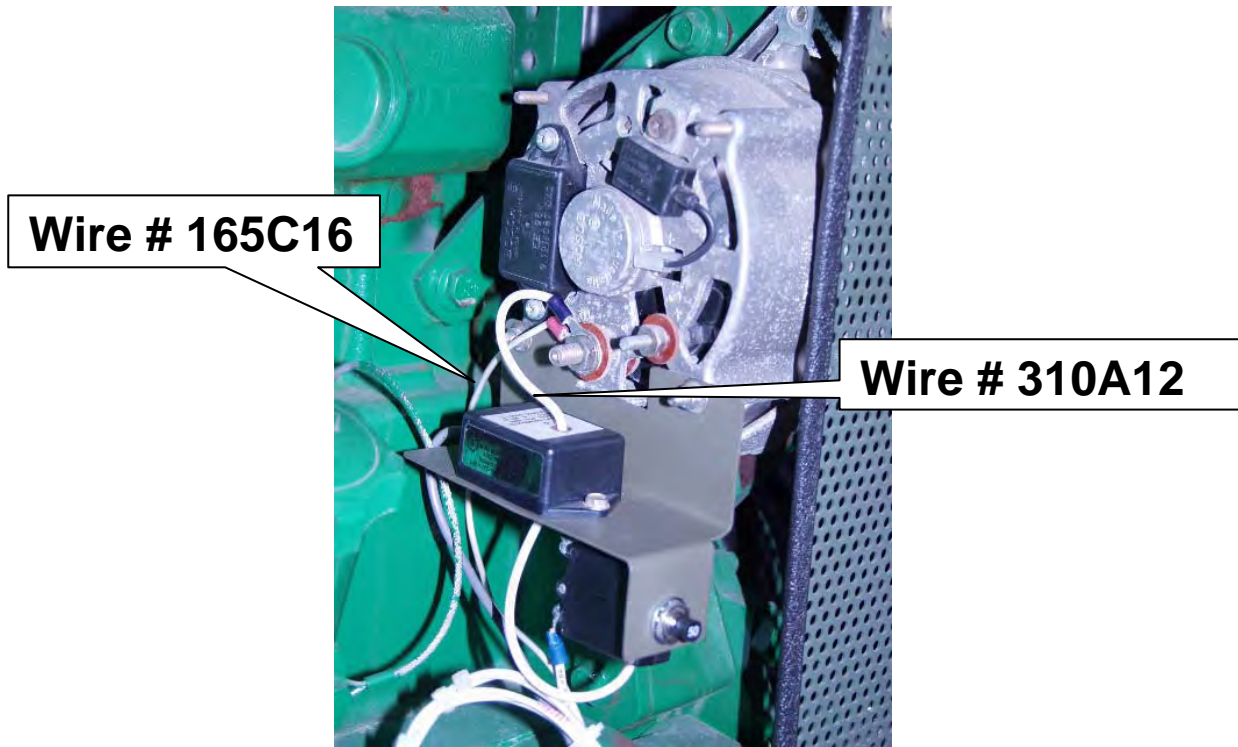

Figure 5. Final Assembly
12. Attach CB1/BCT bracket assembly to the alternator using the existing hardware as shown in figure 5.
13. Install 3/8 inch stud size, lug terminal to the positive terminal on the battery charging alternator, as shown in figure 5. If both procedures have been followed properly, then there should be two wires, wire #165C16 and wire #310A12, attached to the positive terminal of the battery charging alternator.